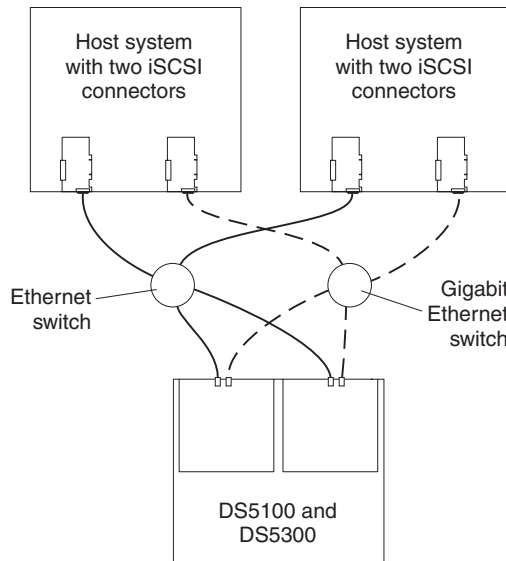

Figure 84. Example of a multiple-host, multiple-port configuration
- Multiple-host, multiple-port configuration, as shown in Figure 84 on page 120
Figure 84 on page 120 shows a multiple-host, multiple-port configuration. For cluster configurations, the following illustration is an example of a multiple-host, multiple-port, and redundant path and controller configuration. You can replace the two gigabit Ethernet switches in the illustration with one large gigabit Ethernet switch that has the required number of ports. Virtual local area network (VLAN) can also be used to isolate the two iSCSI networks, instead of a single switch.